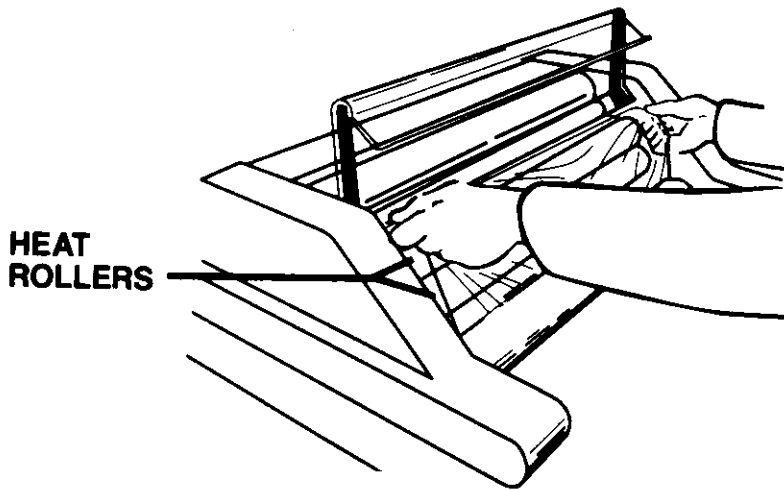

FIGURE 9
9. Unroll enough film to contact and completely cover the pre-existing film laying on the bottom heat roller. Lay the leading edge of film on the tacky edge of the pre-existing film (see figure 9).